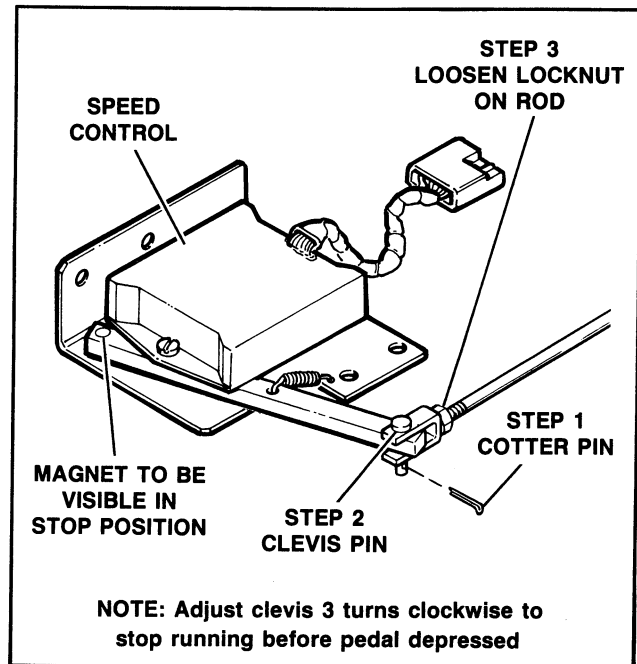

Figure 111 – Speed Control Adjustment
- c. Loosen the locknut on the linkage rod, Figure 111.